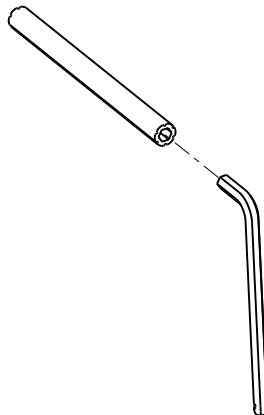

Figure 18 – Hex wrench and removal tool extension
2. Remove the hex wrench and removal tool extension from the center cover assembly (Figure 18).